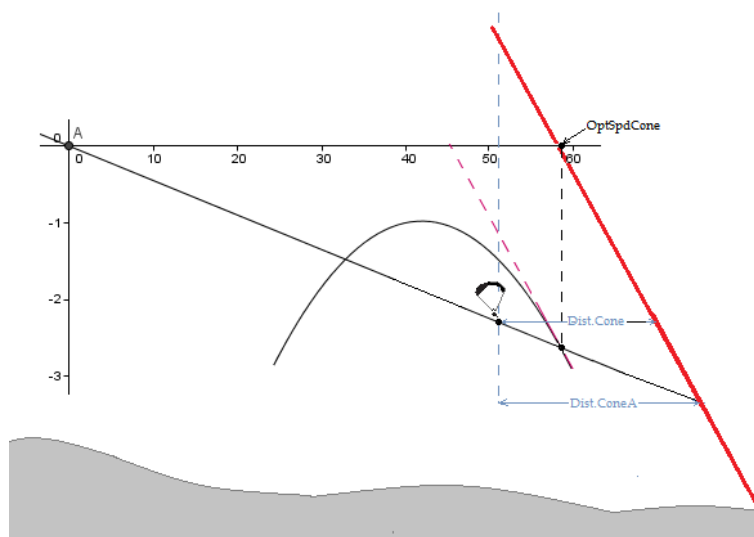

Figure 5.2: Conical End of Speed Section
Consider the same task represented in Figure 4.5, but now the *End of Speed Section* (ESS) is a cone with 4:1 ratio. In order to set up the task you should make the same steps defined in Section 5.1 except the step 5. As the cone as a ratio of 4:1 in this step you should set the *Cone* parameter to 4.0. The NAV SD provides some information to optimize the navigation when the ESS is conical. This information is provided through 5 additional data fields which can be included in a Layout page. Each of the data fields is explained in Section 3.2, but for a better understanding consider the situation of Figure 5.2.
In the example of Figure 5.2, the pilot is flying to the ESS at a certain true air speed (TAS). There is an optimum TAS value which minimizes the time to reach the ESS. This value depends on the polar and cone ratio, and is not affected by the wind or thermals. The NAV SD calculates the optimal TAS value
When the ESS is a cylinder the distance to the ESS does not depend on the pilot altitude. On the contrary, when the ESS is a cone the distance to the ESS depends on the altitude. Because of this, the NAV SD provide 2 distances in 2 different data fields. The *Dist.Cone* data field shows the distance to the ESS at the current pilot altitude (see Figure 5.2). As the glider glide ratio (GR) is usually positive and finite the altitude at which the pilot reaches the ESS is different from the current altitude, so real distance to the cone depends on the GR. The *Dist.ConeA* data field shows the horizontal distance to the ESS considering the expected average GR through the remaining path (see Figure 5.2).